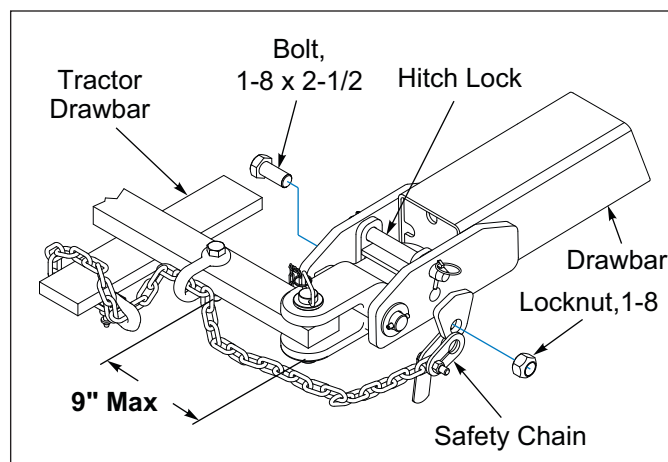

Figure 1-2: Drawbar without Hammer Strap
3. Attach the chain to the Tractor Drawbar Support or specified anchor location. Never attach the chain to an intermediate support. Allow only enough slack in the chain to permit turning. The distance from hitch pin to attachment point or intermediate support point should not exceed 9 inches. **See Figures 1-2 and 1-3.** If the distance from the drawbar pin to either the front or rear chain attachment point exceeds 9 inches, intermediate chain support is required. **See Tractor Operator's Manual.**